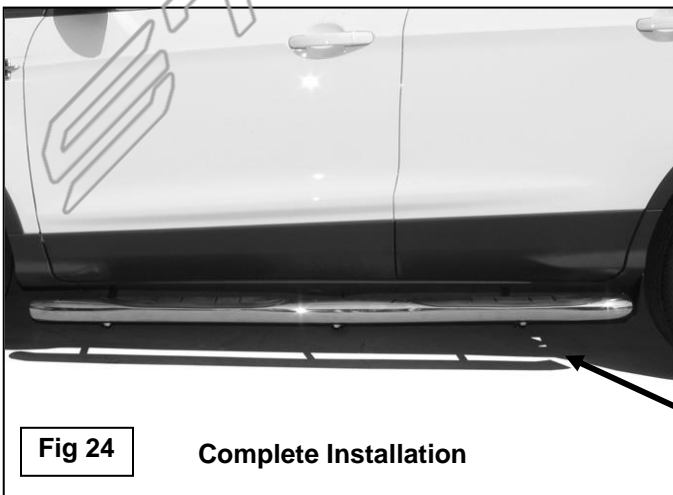

Fig 24
10. Carefully unwrap and select the driver Sidebar. Place the Sidebar in position on top of the (3) Brackets. **NOTE**. It may be necessary to loosen the Brackets slightly to line up the cradles with the threaded inserts in the Sidebars. Bolt the Sidebar to the Brackets with (6) 8mm x 30mm Hex Bolts, (6) 8mm Lock Washers and (6) 8mm flat washers, (Fig. 24).